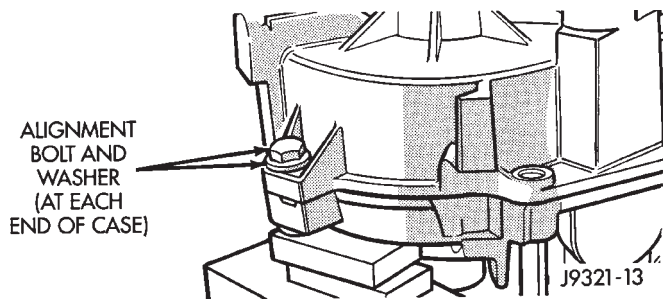

Fig. 88 Alignment Bolt Location
(7) Install case attaching bolts. Alignment bolts at each end of case are only ones requiring washers (Fig. 88).
(8) Tighten case bolts to 27-34 N•m (20-25 ft. lbs.) torque.